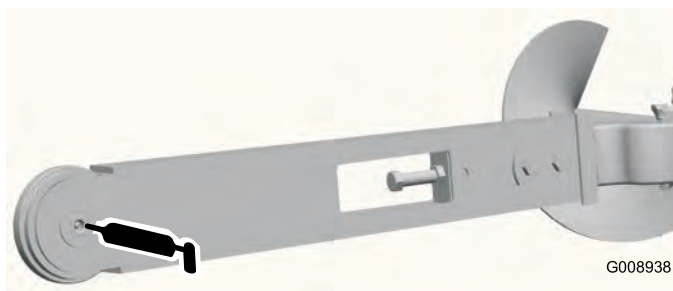
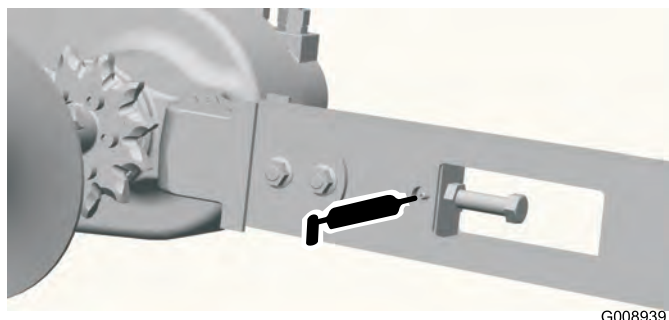

Figure 8
Figure 9
Grease 2 fittings, as shown in Figure 8 and Figure 9, every day and immediately after every washing.
3. Remove the spoils auger (Fig. 8).
12. Thread the 6 bolts into the sprocket finger tight (Fig. 8).
8. Remove the 6 bolts securing the drive sprocket (Fig. 8).
9. Remove and discard the drive sprocket (Fig. 8).
11. Slide the new sprocket onto the shaft as illustrated in Figure 8.